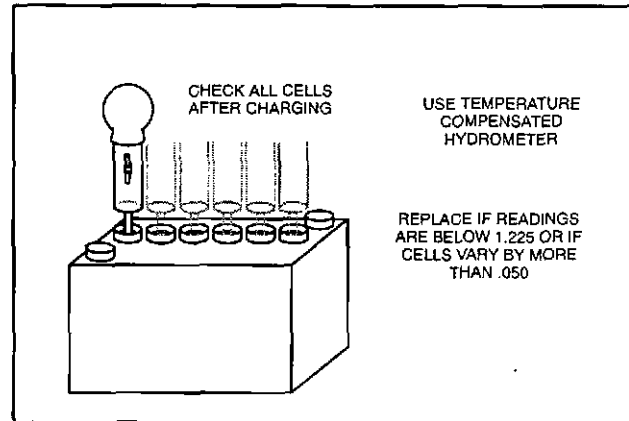

Fig. 29 - Checking 12 V Battery Cells
3. With battery fully charged, check specific gravity readings (unless maintenance free type) of each cell with a Battery Hydrometer and record readings (Fig. 29).